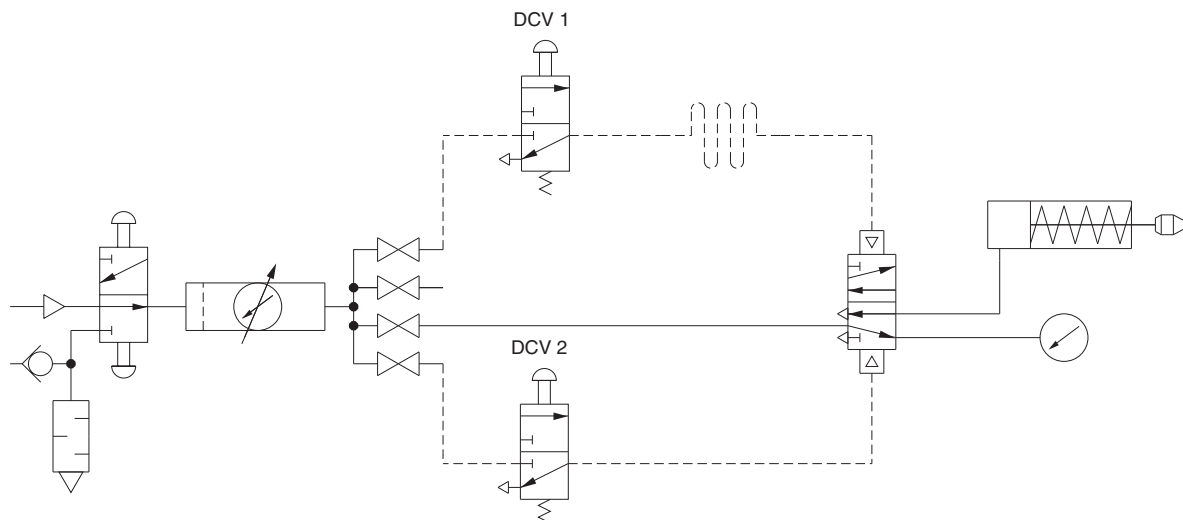

Figure 4-6. Schematic Diagram of an Indirect Control Circuit.
- ☐ 14. Modify your circuit as shown in Figure 4-6.
- ☐ 16. Push down the button on the directional control valve DCV2 to set the spool in the pilot-operated valve as illustrated in Figure 4-6. The piston rod should be retracted.